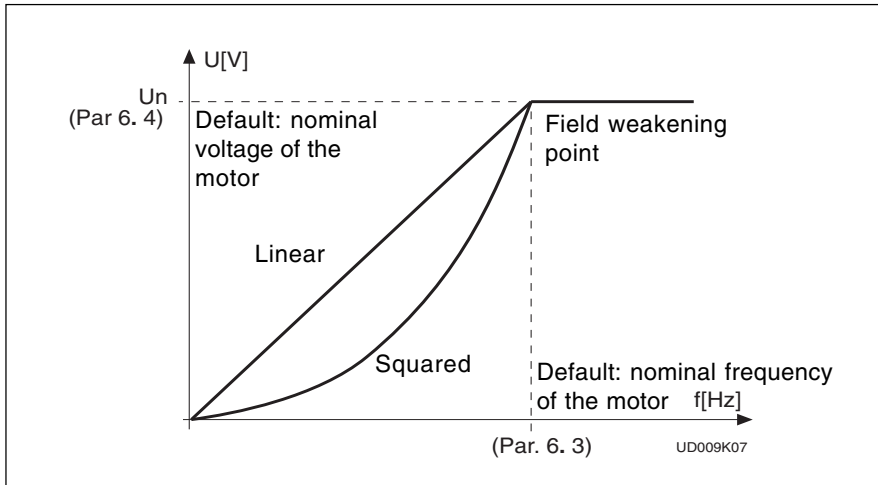

Figure 6.4-1 Linear and squared U/f curves.
Linear: The voltage of the motor changes linearly with the frequency in the constant flux area from 0 Hz to the field weakening point (par. 6. 3) where the nominal voltage is supplied to the motor. See figure 6.4-1.
**1** See figure 6.4-1.